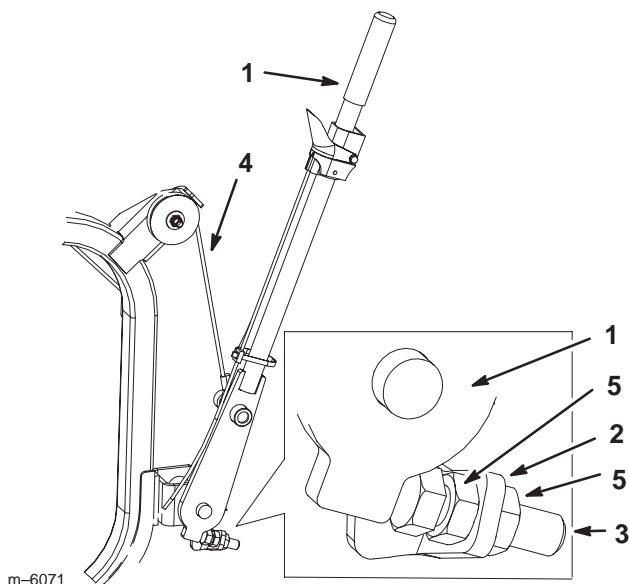

Figure 23
1. Loosen the nuts on both sides of the stop bracket (Fig. 23).
2. Adjust the stop bolt until there is **no** slack in the bagger cable (Fig. 23).
3. Tighten the nuts on both sides of the stop bracket (Fig. 23).